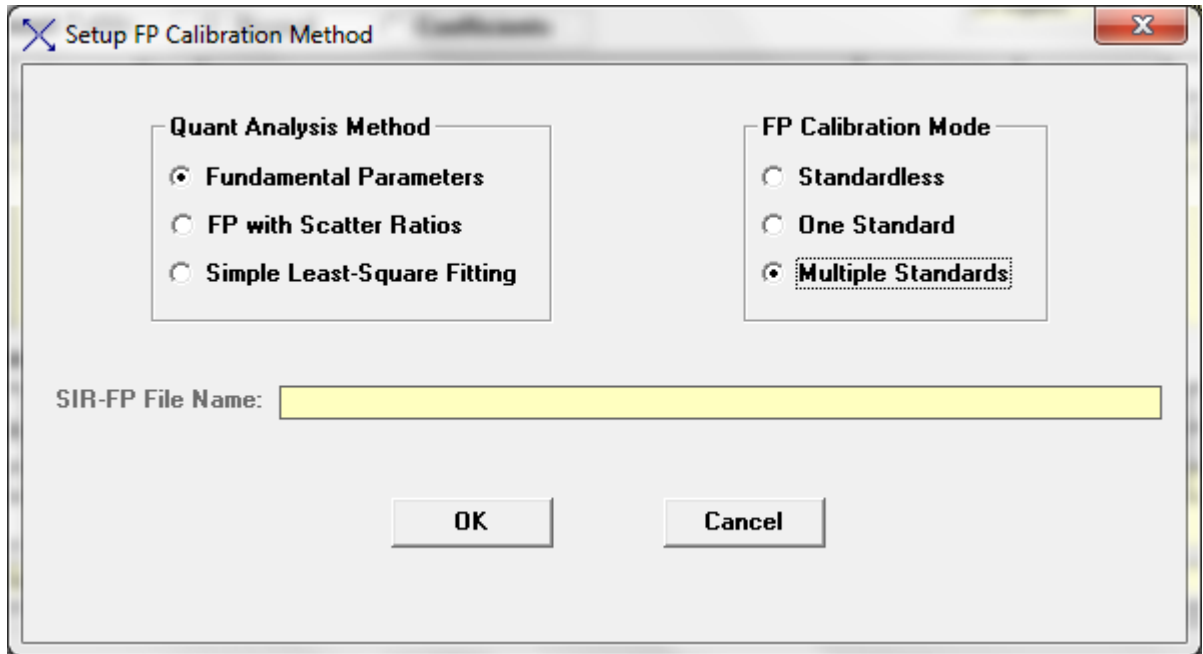

Figure 10
9.1.1. Now Setup Quantification to determine the Calibration Coefficient (TCC) for Cu K α for these excitation conditions – input the Concentration of the Cu in the Component Table to 100% and click **Setup>Quant- Fundamental Parameters Calibration Method** and click on the Multiple Standard radio button (we will be using 2 pure metals standards) and **OK** - Figure 10